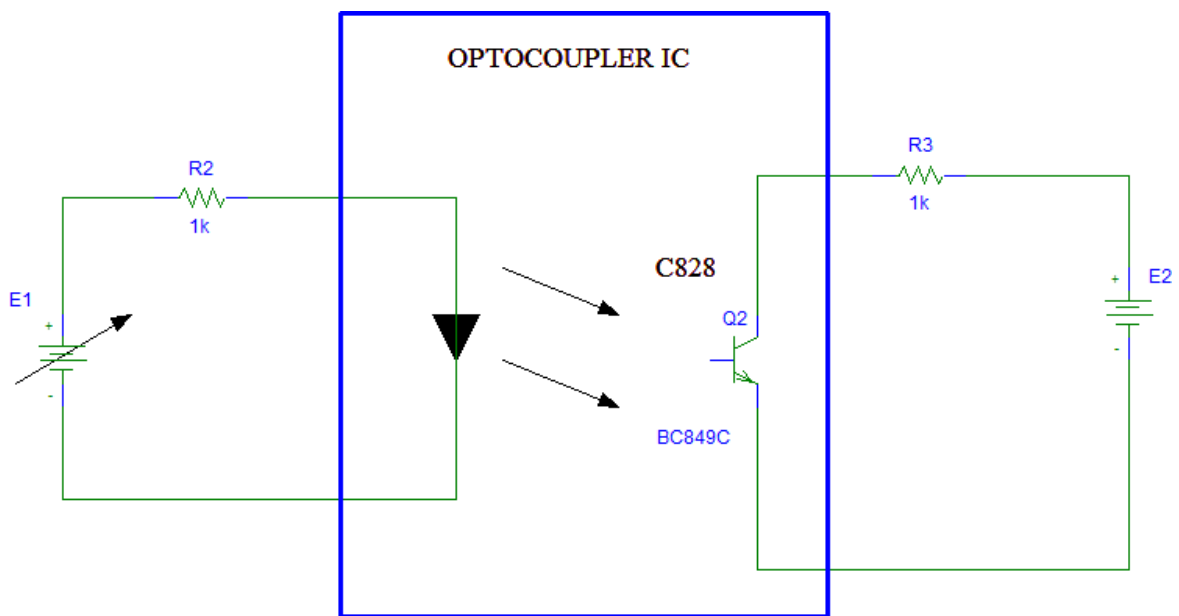

Fig .1: Circuit Setup for Optocoupler
1. Set up the circuit as shown in figure 1.
1. Construct the circuit as shown in figure 1. Keep the infrared LED and the photodiode face to face.